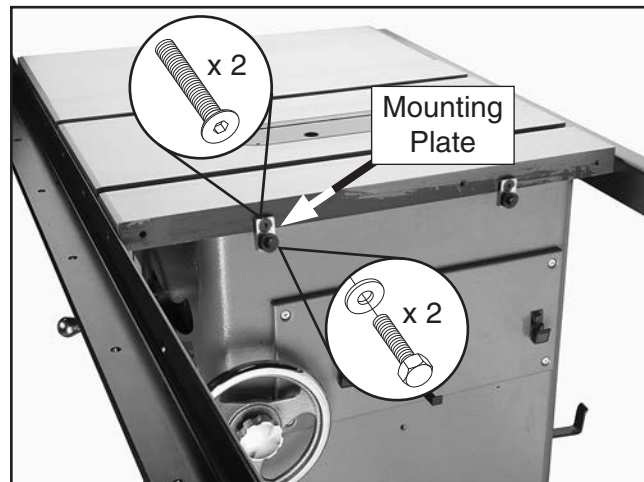

Figure 4. Mounting plates installed.
3. Secure (2) mounting plates to table with (2) M8-1.25 x 25 flat head screws on right side of table saw cabinet, as shown in **Figure 4**, then thread (2) M8-1.25 x 12 hex bolts with 8mm flat washers into mounting plates. Do not fully tighten bolts.